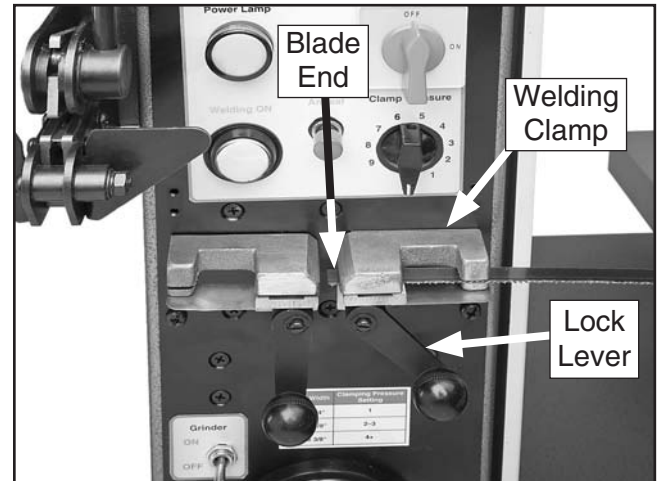

Figure 45. Blade end properly position in welding clamp and locked in place.
3. Pull the welding guard up and loosen the welding clamps by pulling the lock levers down (see **Figure 45**).